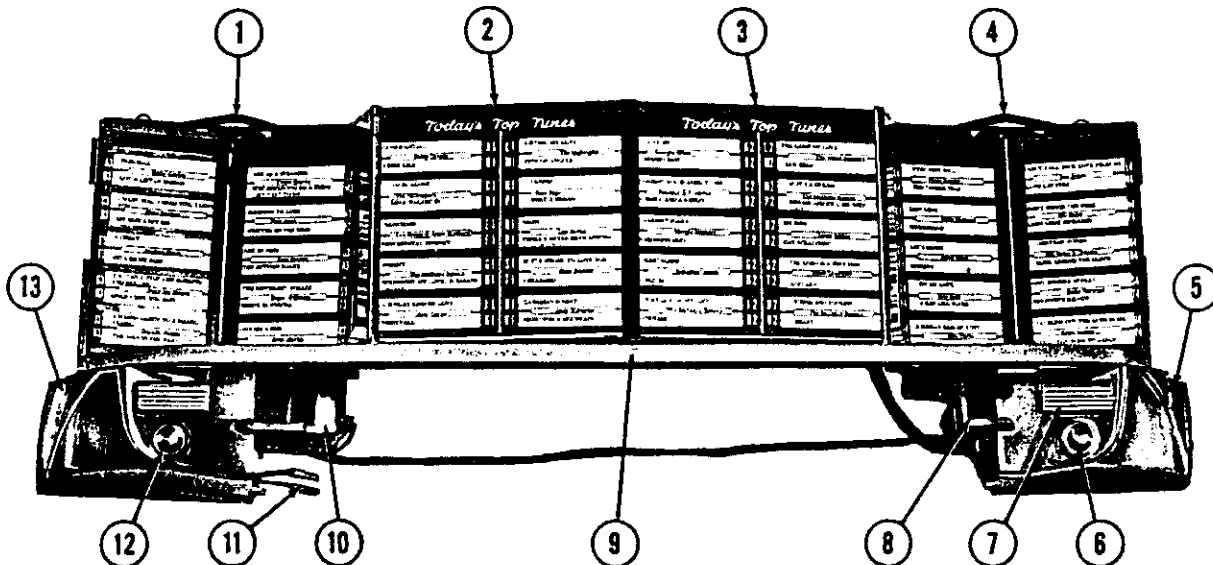

Fig. 17. PROGRAM HOLDERS AND PAGE ASSEMBLIES
a. Program Holder and Silk Screen Assembly. (Fig. 17)